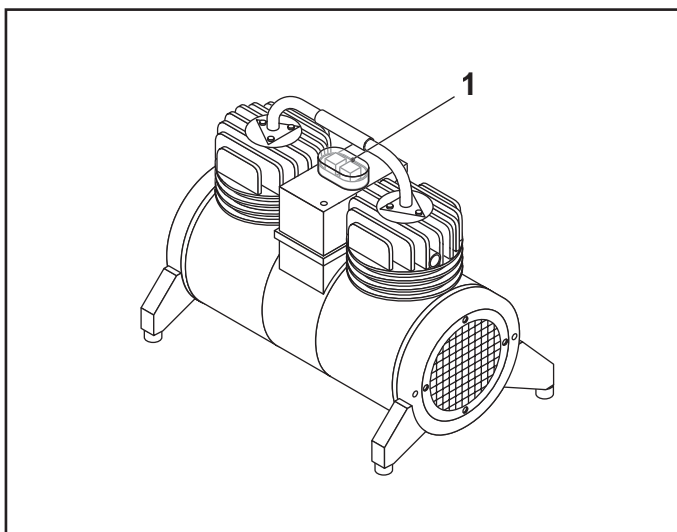

FIG.22
Press key 1 on the compressor switch (FIG.22-REF.1).